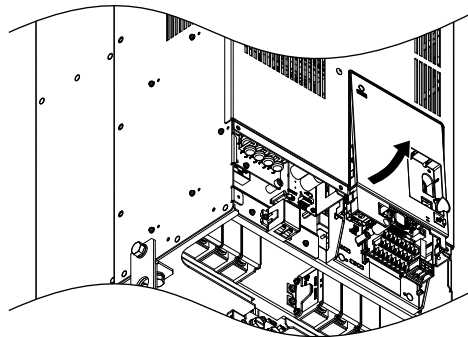

Figure 3.24 Remove the Front Cover (Drive Models 2□0154 to 2□0248 and 4□0156 to 4□0930)
4. Unhook the left side of the front cover then swing the left side towards you as shown in Figure 3.24 until the cover comes off.